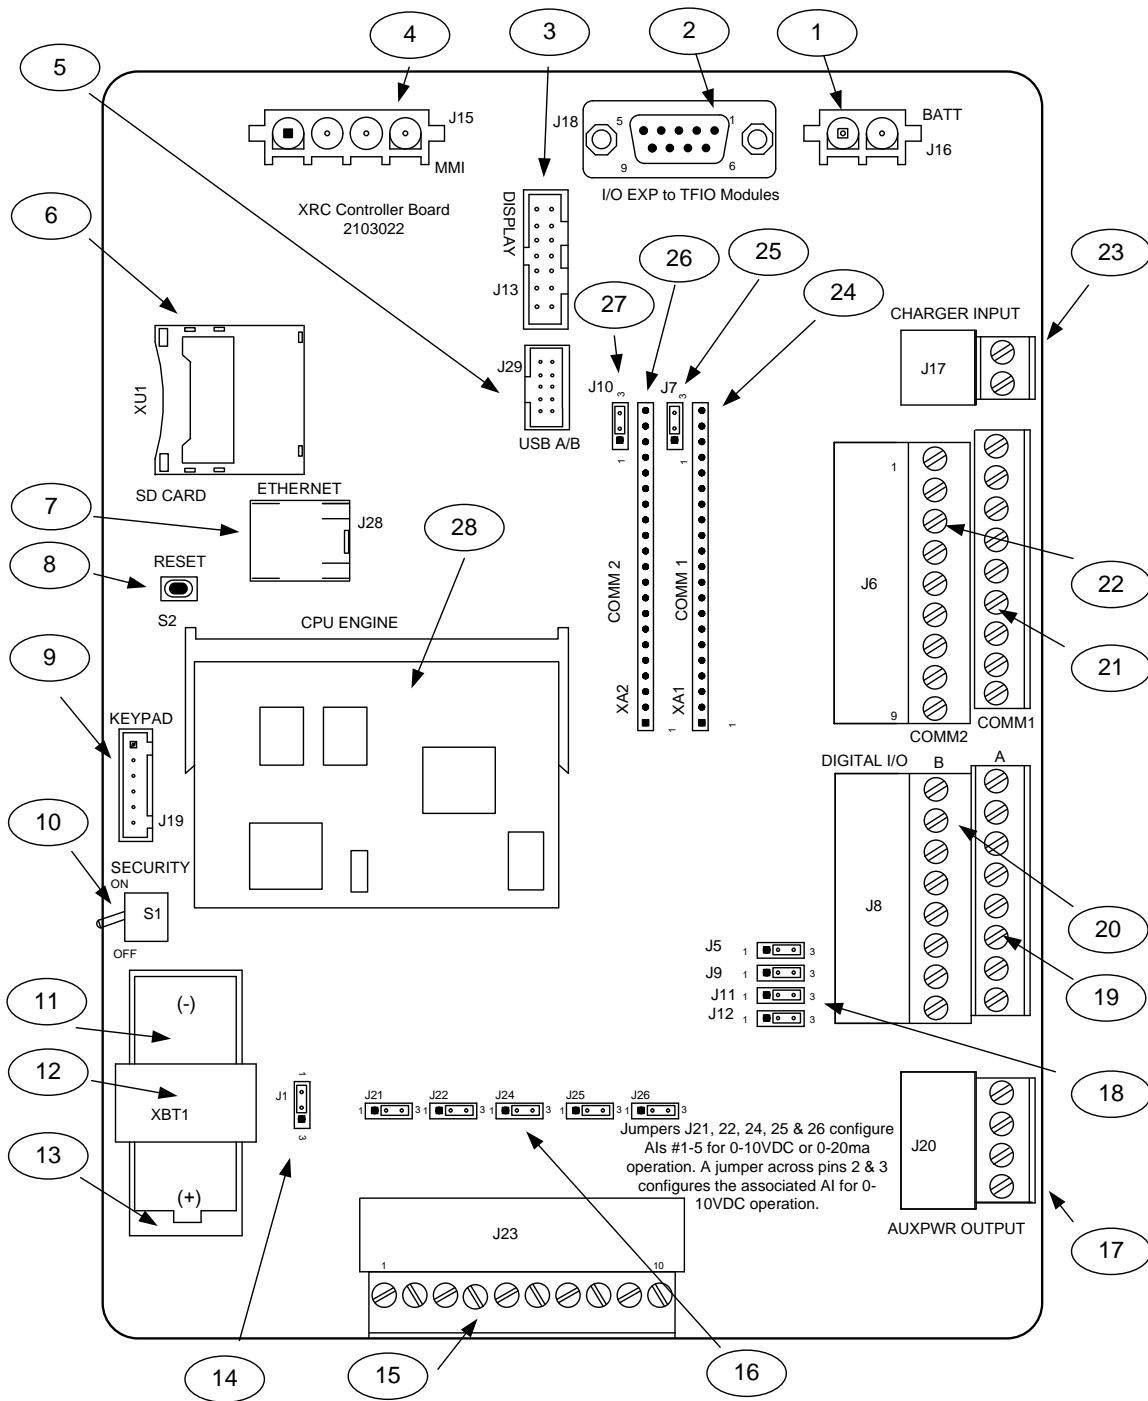

Figure 5: XRC board
The XRCG4 board is designed as a general purpose RTU motherboard that mounts in all XSeries enclosures. It has the same footprint as its counterpart, the XFC board (extendable flow computer motherboard). The specifications for the XFC board are given in Table 3. Figure 5 identifies the parts of the board and Table 4 provides the descriptions.
The main electronic board (XRCG4 board) is an enhanced replacement for previous versions of the RTU main electronic board. Specifications for digital/pulse input, digital output and analog input follow in the next few pages. For a complete overview of the XRCG4 board, see Figure 5.
Up to two on-board communication ports can be programmed on the main electronic board. Normally, COMM 0 is the local port required for reading the XRC with a laptop computer running PCCU32. COMM 1 and COMM 2 can be configured for any combination of RS-232 or RS-485. See Figure 5 for on-board Communication Ports. Six ports are available:
The Totalflow XRCG4 provides four digital inputs, or two digital and two high speed pulse inputs, as means to control external equipment with the XRCG4 (See Figure 5: *XRC board*, items 19 and 20).
The XRCG4 board includes jumper pins to enable or disable debounce. See Figure 5: *XRC board*, item 18 for the jumpers. The inclusion of the debounce capacitor, when enabled, allows the unit to ignore noise when manual switches are set. When disabled, the high speed pulses are received exactly as sent. If input is received as a solid state, then debounce is not needed and it should be disabled.
The Totalflow XRCG4 provides four digital (12 Vdc) outputs as means to control external equipment with the XRCG4 (Figure 5: *XRC board*, items 19 and 20.)